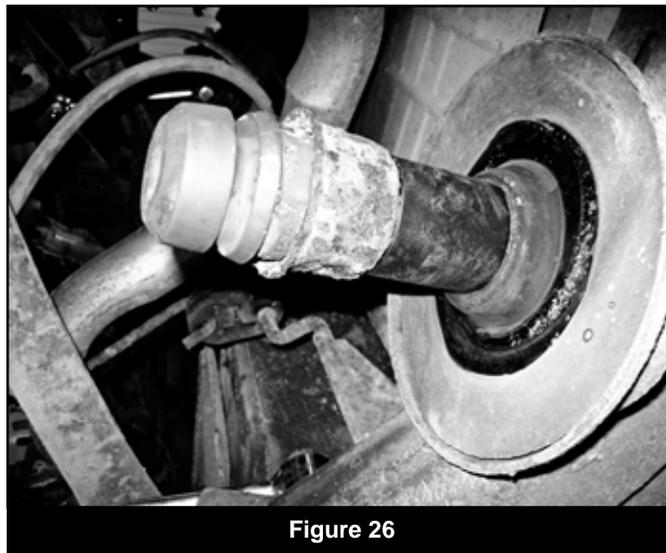

Figure 26
32. Install the provided 2" bump stop spacer (2296) between the bump stop cup and the frame. Attach the cup and spacer to the original mount position with a 10mm x 80mm bolt. Torque bolt to 30 ft-lbs (Fig 26). Reinstall the rubber bump stop into the cup. Note: Grease will make installing the bump stop easier.